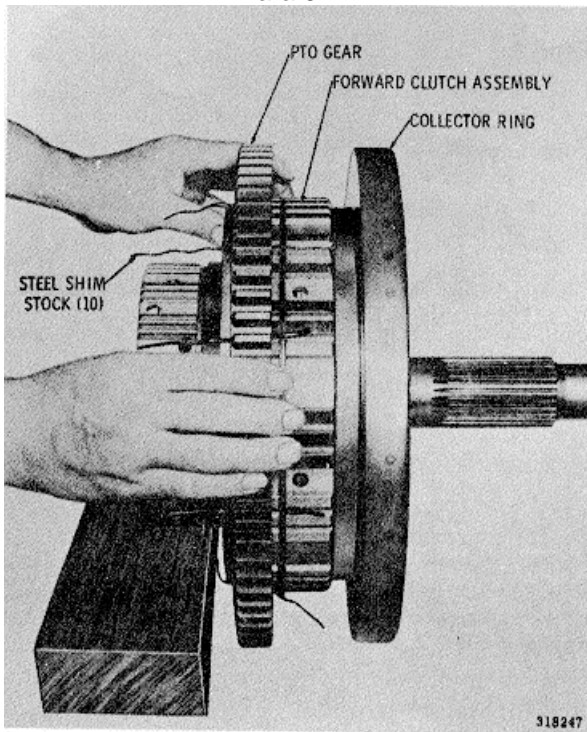

Fig. 6-31 Removing PTO gear from forward clutch
(13) Remove twenty piston return springs 14 (A, foldout 11).
(14) Remove forward clutch piston 13 and sealrings 10, 11 and 12. If the piston is replaced, be sure the identification (A, B or C) for the new piston is identical to that of the piston replaced.
(15) Remove the PTO gear by compressing the snapping, located within the gear, sufficiently to allow the gear to slip easily from the clutch housing.
(16) To compress the snapping, insert 10 pieces of 3/32 x 0.020 x 3-inch (2.38 x 0.50 x 76.2-mm) steel shim stock between the snapping and the PTO gear (fig. 6-31). To accomplish this, locate the snapping gap, and at the cutout nearest the gap, press the snapping into the groove in the housing. Slip a piece of shim stock between the snapping and the inner ends of the splines of the PTO gear. Repeat the operation at the other side of the snapping gap.
(17) Then, working at each opening (missing spline) to compress the snapping, insert the remaining pieces of shim stock at approximately 3-inch (76.2 mm) increments. Push the gear from the housing. Remove the